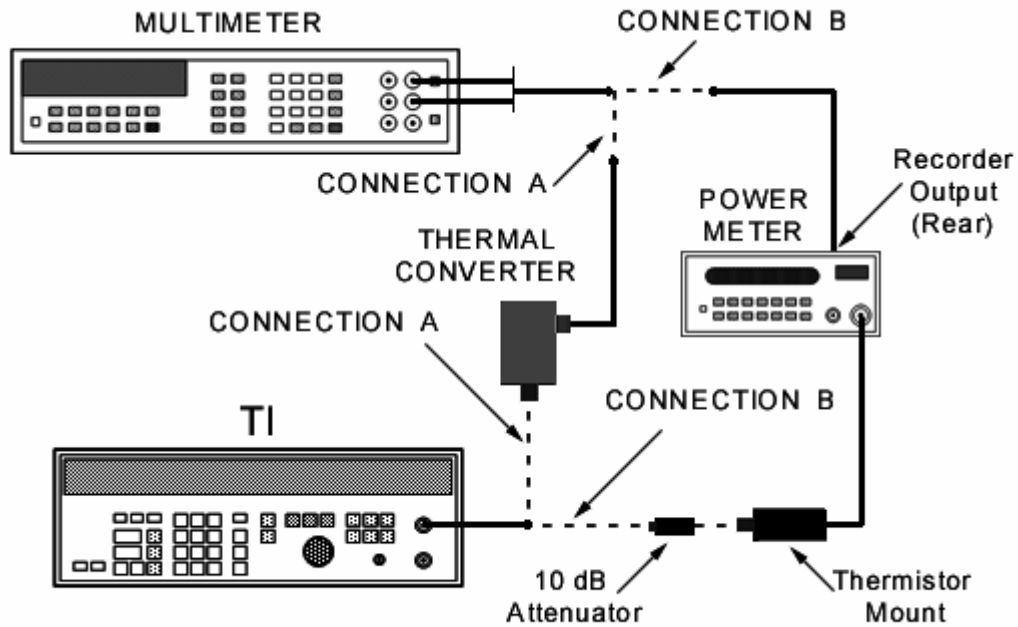

Figure 4. Flatness.
- (1) Connect equipment as shown in figure 4, CONNECTION A.
- (2) Set **FREQUENCY** to 100 kHz and press +13.01 dBm.
- (3) Record multimeter reading.
- (4) Press +12.91 dBm.
- (5) Record multimeter reading.
- (6) Calculate the allowable tolerance by subtracting reading in (5) above from reading in (3) above.
- (7) Record tolerance.
- (8) Reset amplitude to +13.01 dBm.
- (9) Set TI to the following frequencies, allow multimeter reading to settle and record the reading: 200 Hz, 50 kHz, 500 kHz, 1 MHz, 5 MHz, and 10 MHz (see **NOTE** above).
- (10) The result for each frequency must indicate the reading of (3) above  $\pm$  the tolerance established in (7) above.
- (11) Disconnect figure 4, CONNECTION A, equipment and reconnect as shown in figure 4, CONNECTION B.
- (12) Press TI **FREQUENCY** to 10 MHz and **AMPLITUDE** to +13.01 dBm.
- (13) Adjust power meter **CAL FACTOR** control set for power sensor.
- (14) Record multimeter reading.
- (15) Press +12.86 dBm.
- (16) Record multimeter reading.
- (17) Calculate the allowable tolerance by subtracting reading in (16) above from the reading in (14) above.
- (18) Record tolerance.
- (19) Reset amplitude to +13.01 dBm.
- (20) Set the TI to the following frequencies and record the multimeter readings: 20, 30, 40, 50, 60, 70, and 80 MHz.
- (21) The result for each frequency must indicate the reading of (14) above  $\pm$  the tolerance established in (18) above.